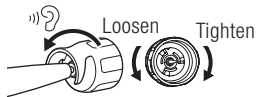

Figure 7
- 4) Turn the tip wrench in the tightening direction indicated by the arrow until you hear a “click” sound, indicating it is securely tightened. (Figure 7)